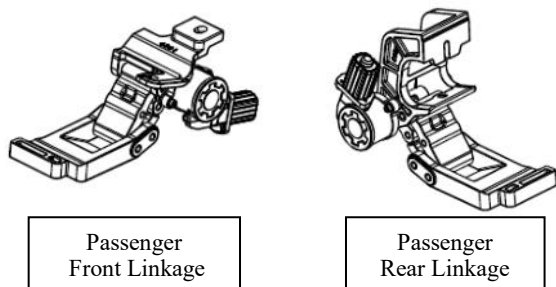

Figure 10
6. For the passenger side of the vehicle refer to **Figure 10** to locate the mounting holes on the rocker panel.